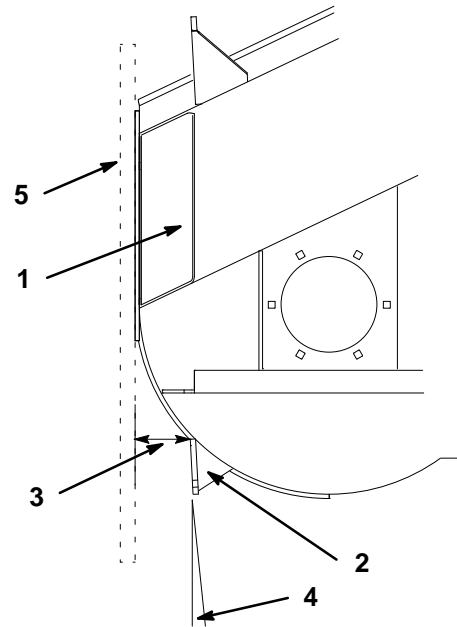

Figure 6
1. Put a straight edge along the left side of the unit for a reference. Measure over 3 in. from the straight edge to locate the position for bracket (Fig. 6).